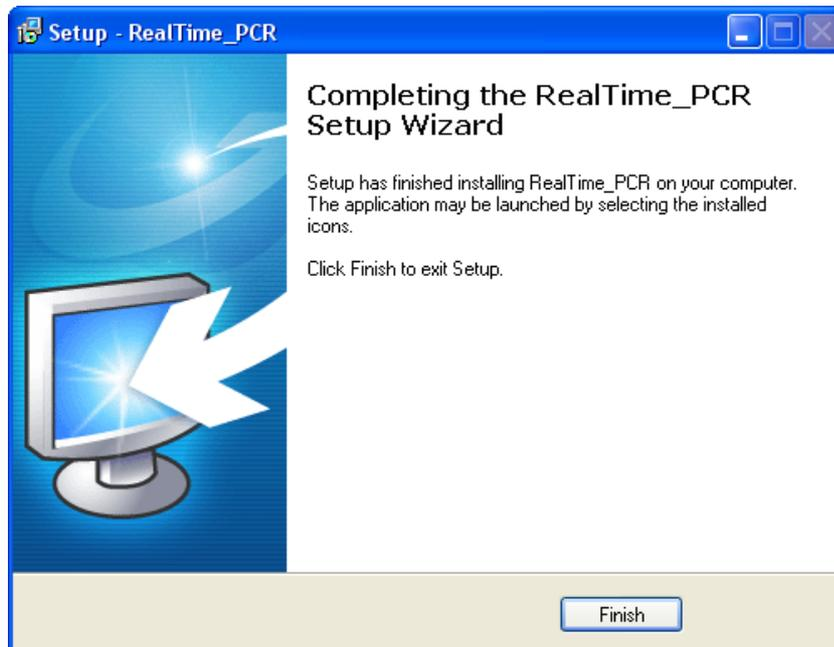

Fig.19. Completed operation of the RealTime_PCR installation wizard
- After the installation is completed you will see following window (Fig. 19). Click  to quit the Setup Wizard.